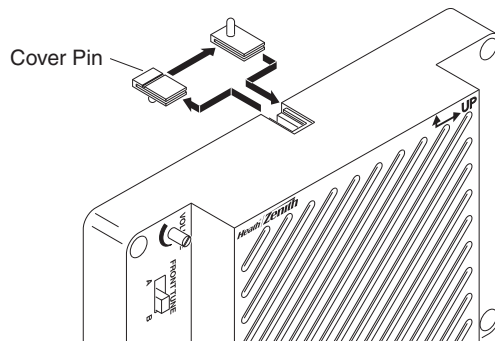

Figure 3 - Turning Over Cover Pin for Hanging Type Cover
- **For hanging type cover:** Remove, turn over, and reinstall the cover pin (see Figure 3). Hang cover on cover pin.